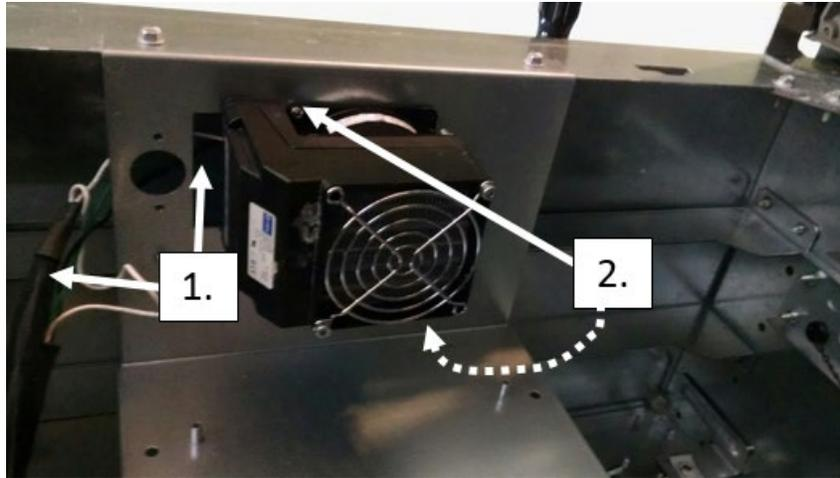

Figure 165
- 6) Orient and mount the heater as shown using two supplied 6-32 screws and nuts (006-8611215 and 006-8611426) as required at both corner locations [2]. See Figure 165 below.